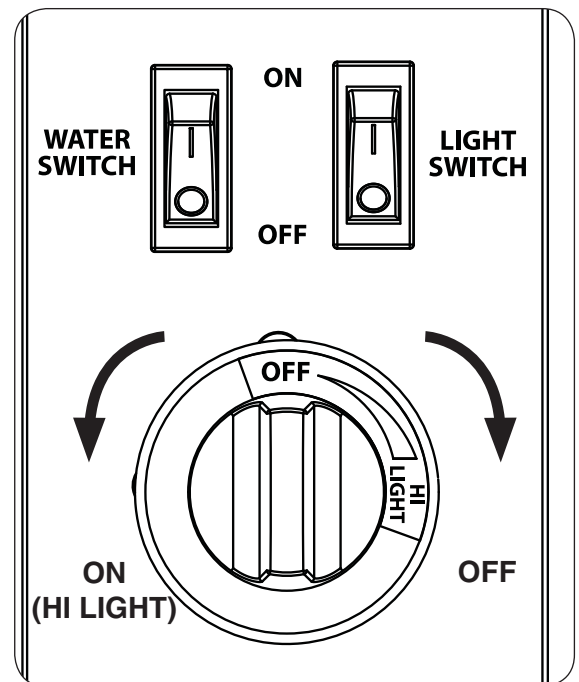

Fig. 31-2 Control box detail
4. **Once the match is burning and in position**, depress the gas control knob and turn it counter-clockwise to the **HI LIGHT** position (see Fig. 31-2). Your burner should light.
To extinguish your gas burner, depress the gas control knob and turn it clockwise to the **OFF** position (see Fig. 31-2). Be sure the control knob is turned fully off to avoid any gas leakage.
2. Flip the water switch (door side of firefall) to the **ON** (I) position (see Fig. 31-2).
1. Flip the light switch (door side of firefall) to the **ON** (I) position (see Fig. 31-2).